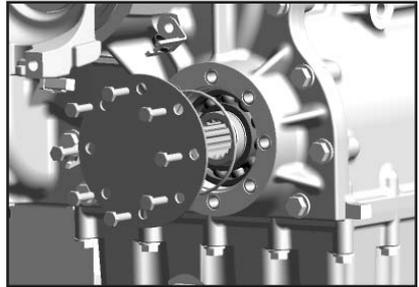

Fig. 2
3. Remove the O-Ring and clean the aperture surface. **(Fig. 2)**